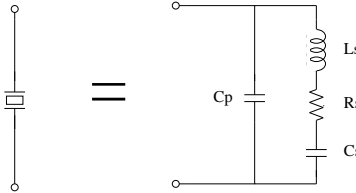

Figure 2: Equivalent Circuit for a Quartz Crystal)
- Now look at how the crystal is situated in the circuit. Drawing on your knowledge about crystal resonators, are you using the crystal in its series or parallel resonant mode? A schematic model of a quartz crystal appears in Figure 2.